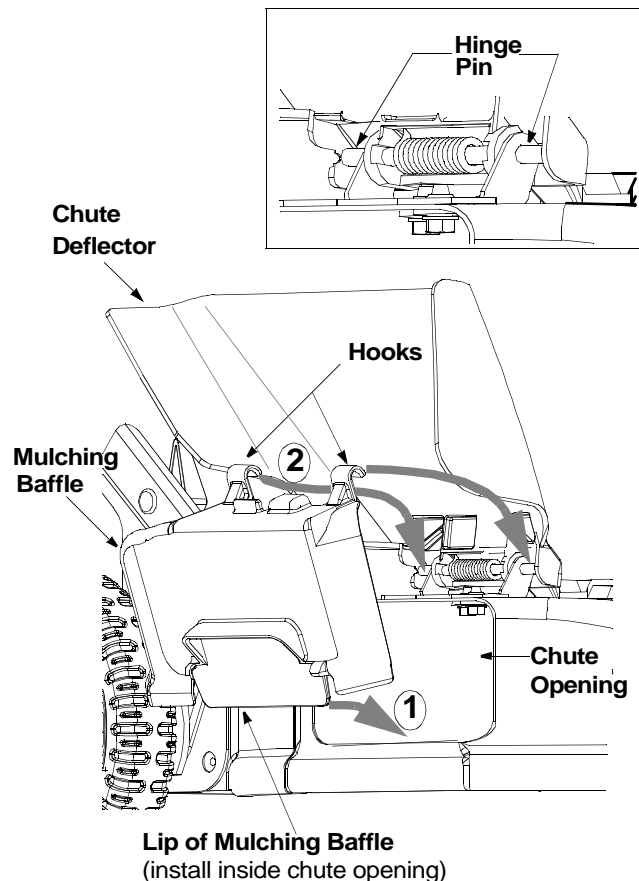

Figure 8
- Insert bottom lip of the mulching baffle **inside** the chute opening. See Figure 8.
- Snap hooks of the mulching baffle over the hinge pin of the chute deflector. See Figure 8. The hooks must snap into place on the hinge pin, locking the mulching baffle firmly onto the mower. For a close-up of the hinge pin location, see Figure 8 inset.